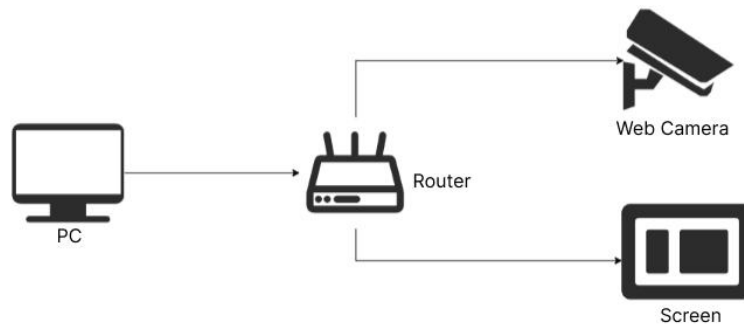

Figure 5.2
(2) As shown in Figure 5.2, for a wired connection, please connect the PC, web camera, and screen to the same LAN through a router. WLAN connection can refer to Part 6 of this guide, "3. How to connect to the WIFI network?". If the web camera is used for the first time, please register and activate it as instructed by the supplier.